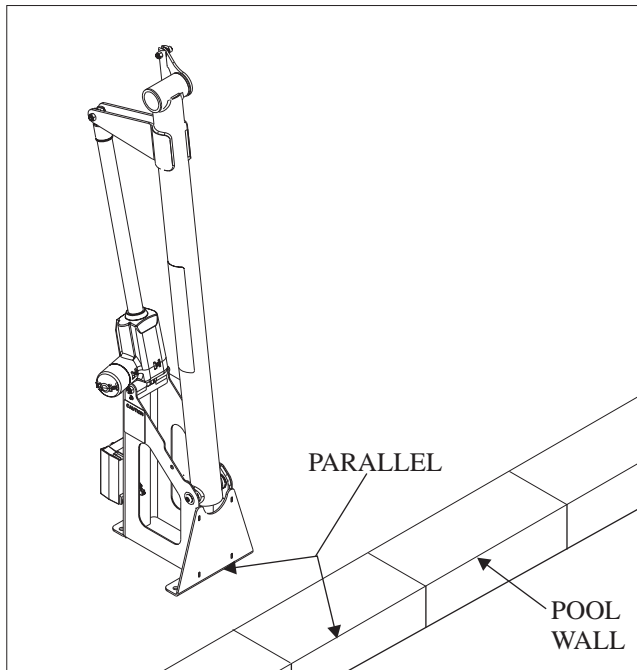

Fig 4: Lift base parallel with pool wall
- 5 Mark the four (4) hole locations of the base onto the deck, being sure that the Base is parallel with the pool wall and the Arm is facing the correct direction, Fig. 4 & 5.